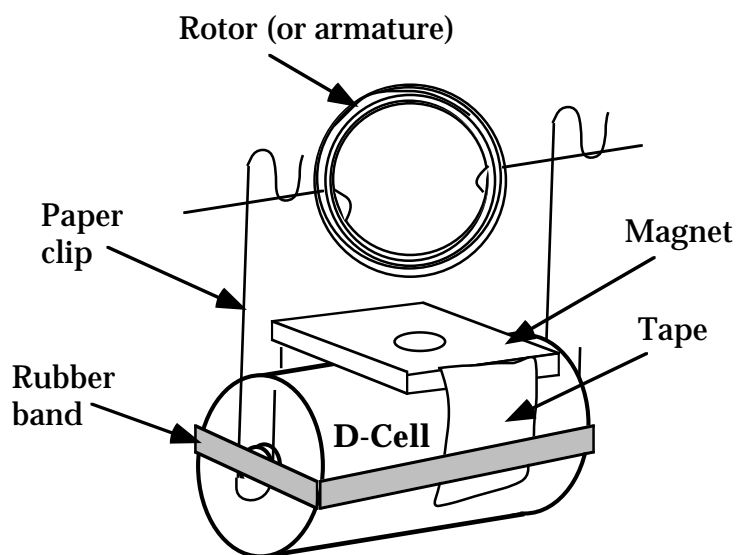

Figure 7.21a
5. Tape a flat magnet to a D-cell as shown in Figure 7.21a. (To stabilize the D-cell, you may want to tape it to the desk or to an upside-down foam cup.)